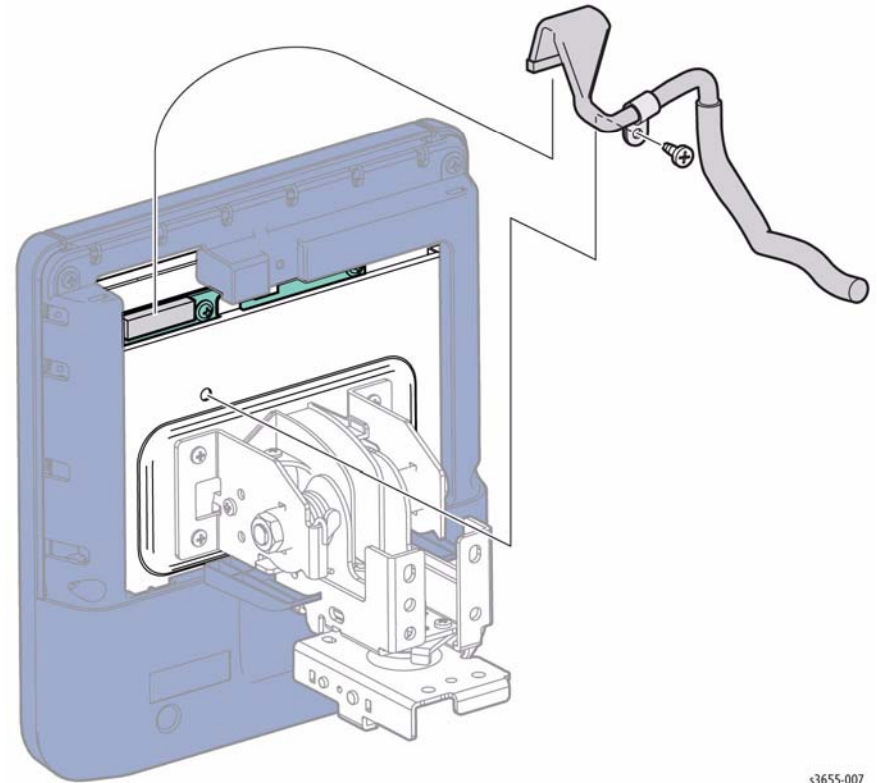

Figure 2 Disconnect the UI Cable
13. Refer to Figure 2 to locate and remove 1 screw and 1 tie that secure the cable to the Control Panel, then remove the cable from the UI Hinge Assembly.